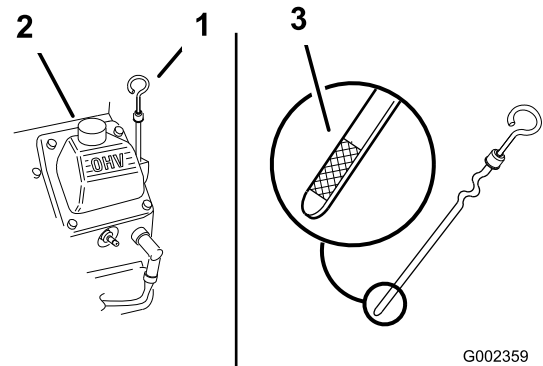

Figure 43
2. Clean around the oil dipstick (Figure 43) so dirt cannot fall into the filler hole and damage the engine.
3. Remove the dipstick, wipe it clean, and install until it is fully seated (Figure 43).
The oil level should be between the “F” full and “L” low marks on the dipstick (Figure 43).
5. If the oil level is below the “L” low mark, remove the filler tube cap (Figure 43) and add the specified oil until the level reaches the “F” full mark on the dipstick.